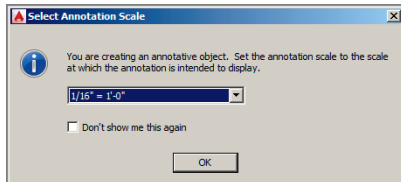

FIGURE 13.2 Selecting an annotation scale in model space
- Click the Multiline Text tool in the Annotation panel on the ribbon's Home tab. Select $1/16'' = 1'-0''$ (or 1:200 for metric) from the drop-down menu in the Select Annotation Scale dialog box that appears (see Figure 13.2). Click OK.